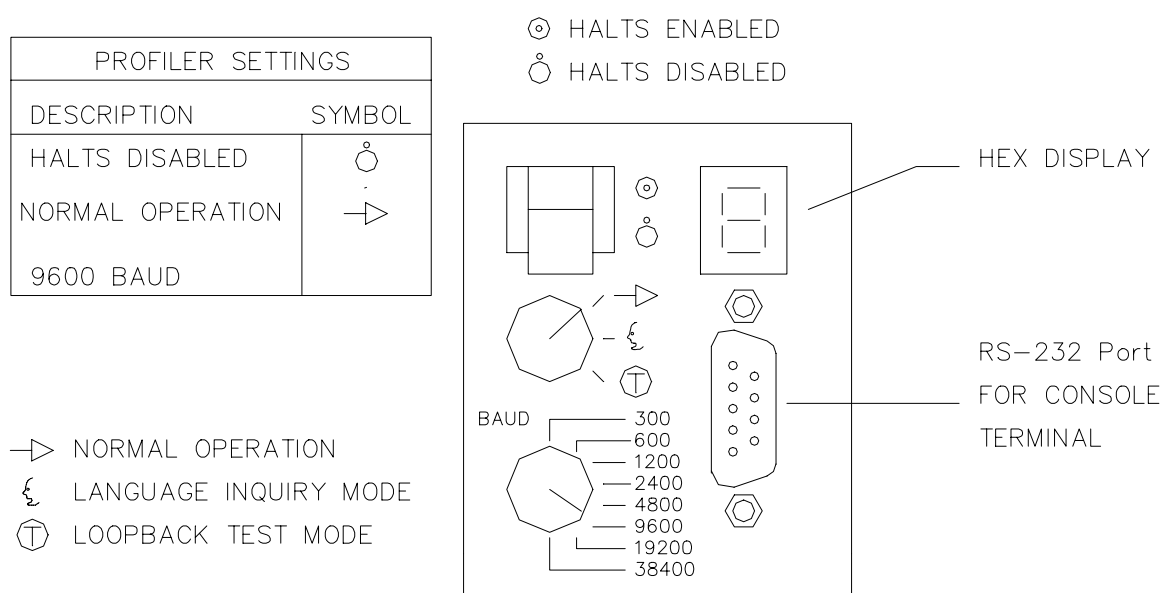

Figure 4-16 Data Processor Rear Panel Switch Settings
7. Verify that the switch settings on the rear panel match those in Figure 4-16.
11. Turn on Breaker #24 and observe the hexadecimal display on the rear panel of the Data Processor (see Figure 4-16). A countdown sequence (starting on